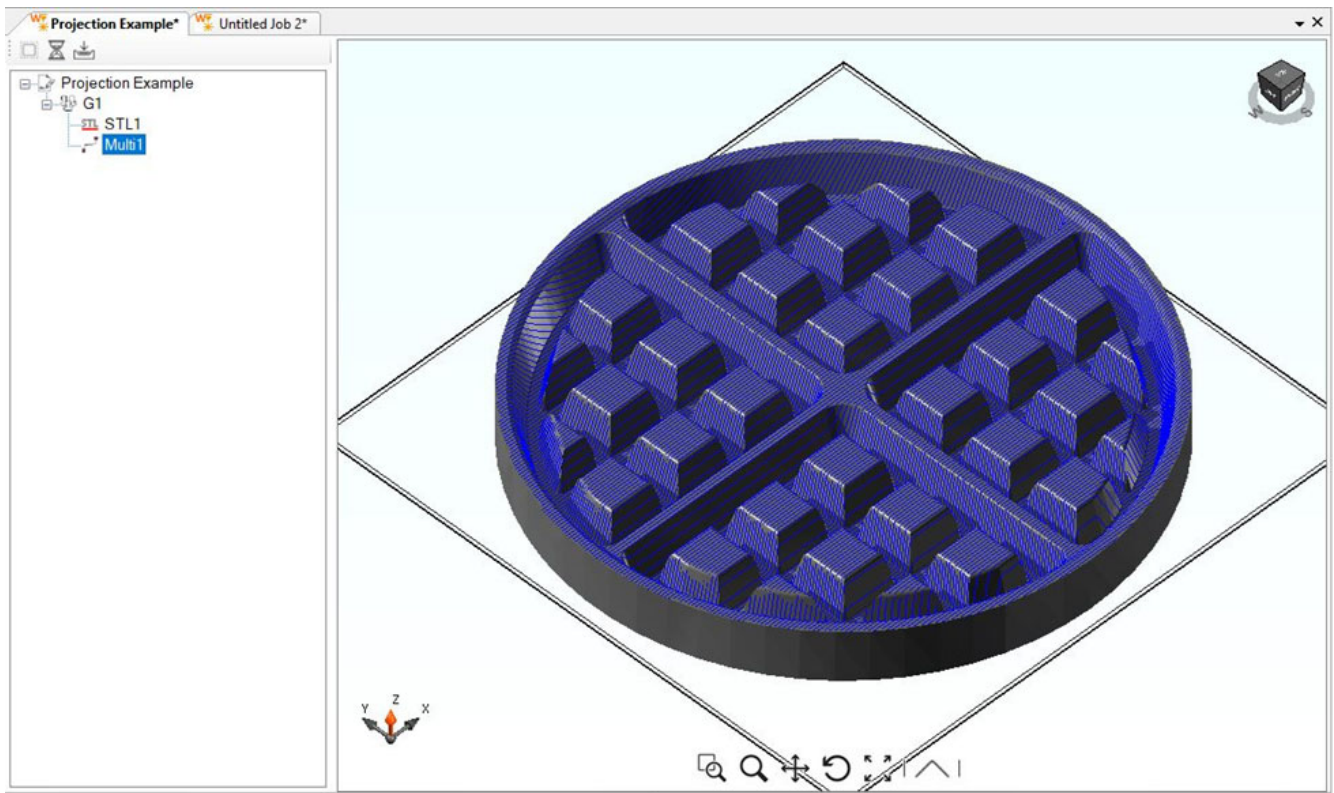

Figure 138: Process Object Projected onto an STL Model
11. Once the projection process is complete, the object will now be projected onto the STL model accordingly. See Figure 138 (below).